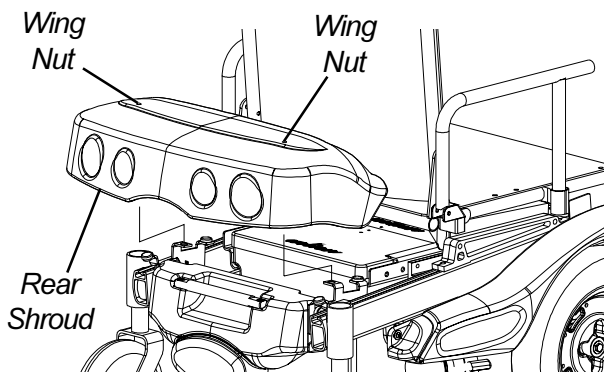

FIGURE 1 - REMOVING/INSTALLING REAR SHROUD
**REMOVING/INSTALLING REAR SHROUD (FIGURE 1)**
1. Turn the two (2) wing nuts COUNTERCLOCKWISE and lift up on the rear shroud.